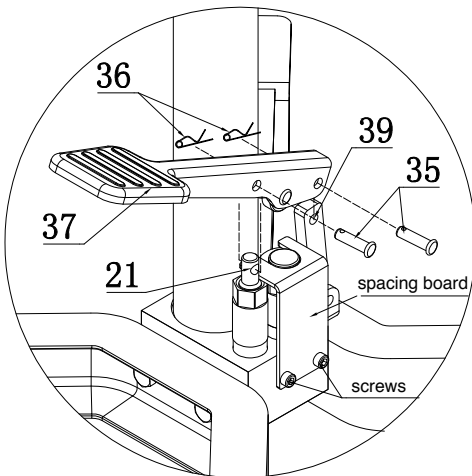

figure 1
1. Fit each Caster (53) to the Legs (52) using Nuts (49), Lock Washers (50), and Flat Washers (51), then tighten.
2. Attach the 2 Legs (52) to the Transmission Jack Base (18) using Bolts (56), Lock Washers (55), and Flat Washers (54), then tighten.
3. Install the Saddle Assembly (17) onto the top of the Piston Rod (9), then tighten Lock Bolt.
4. Remove the R Clips (36) and Pedal Pins (35) from Foot Pedal (37). Attach the Foot Pedal to the Pump Core (21) and Connecting Bar (39) using the Pedal Pins and R Clips. Press the Foot Pedal and remove the 2 Screws holding the Spacer in place (figure 1), then release the Foot Pedal.